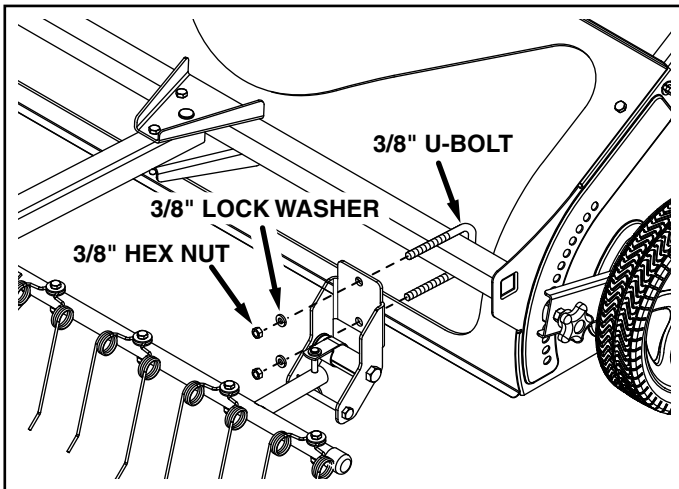

FIGURE 7
- Tighten** the U-bolts and nuts assembled in figure 7.